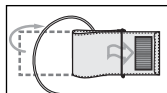

Fig. 5
1. Insert the cuff end for about 5 cm into a metal ring as shown in the fig. 5 (if cuff is with ring).